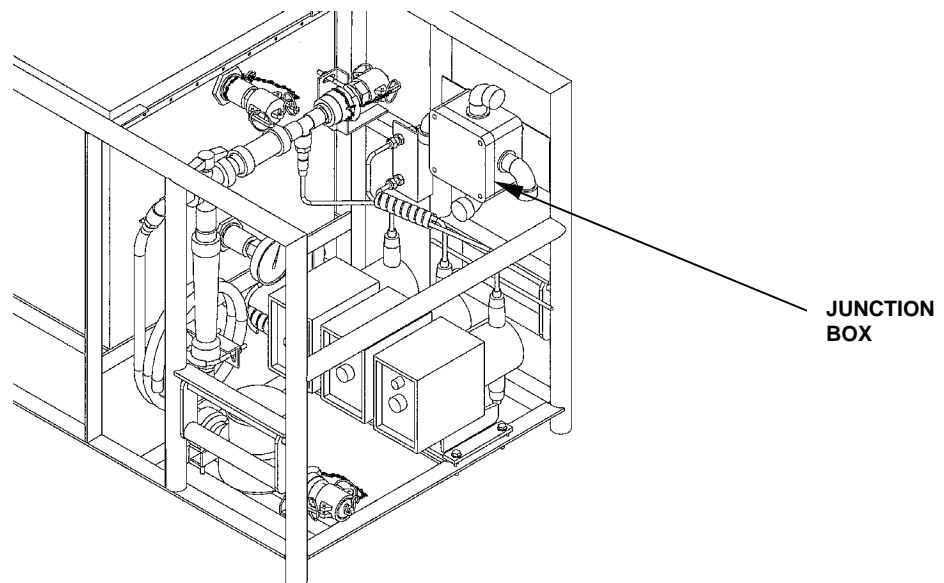

Figure 1. Chemical module Junction Box Location.
2. The junction box is located on the module above the chemical pumps. See Figure 1.